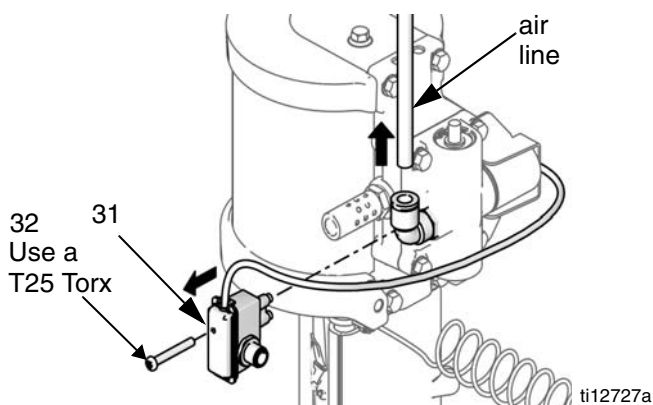

FIG. 3: Reed switch assembly & air line removal
1. **For motors with DataTrak:** Remove screw to disconnect the reed switch from the air valve. See FIG. 3, page 10.
2. Use a 10 mm socket wrench to remove four screws (18). Remove the air valve (17) and gasket (16*♦).
4. Remove four screws (18) and remove the manifold (15*) and two gaskets (14*).
5. Use a 10 mm socket wrench to remove the pilot valves (19) from the top and bottom cover.
6. **For motors with linear sensor:** Remove the linear sensor assembly (36) from the top cover. Do not remove the cover with the sensor still in place.